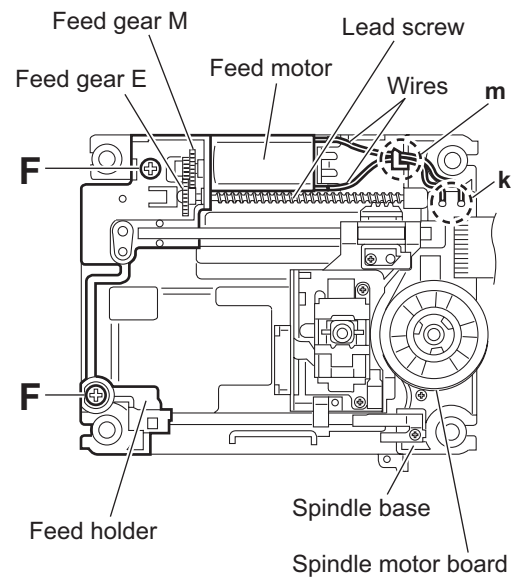

Fig.11
- (3) Remove the wires from the soldered section **k** on the spindle motor board. (See Fig.11.)
- When attaching the feed motor, pass the wire through the section **m** on the spindle base. (See Fig.11.)
- (4) Remove the feed holder, feed motor, lead screw, feed gear **E** and feed gear **M** at the same time after removing the two screws **F** attaching the feed holder. (See Fig.11.)
3.2.7 Removing the spindle motor board (See Figs.11 and 13)
- (1) From the top side of the traverse mechanism assembly, remove the wires from the soldered section **k** on the spindle motor board. (See Fig.11.)